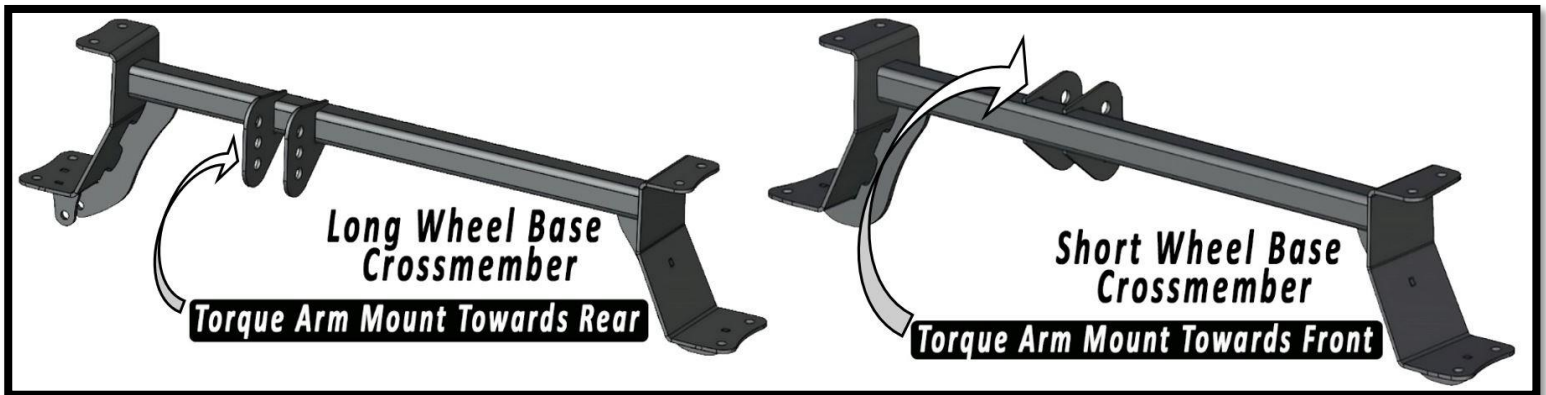

Figure 24
39. Install one SG10-84 spacer (#1) into each end of both rod ends. (Figure 24)